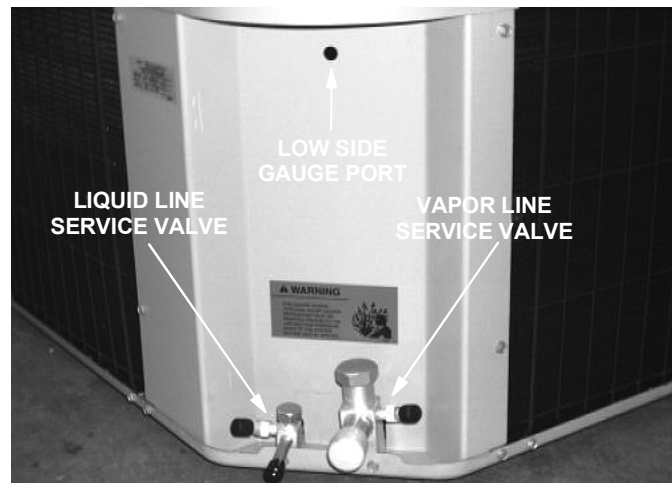

Figure 4
2. Attach the gauge manifold to the service valves on the unit (see Figure 4).
Measure the low side pressure and temperature from the pressure tap provided. See Figure 4. Measure the high side pressure and temperature from the liquid line service valve.